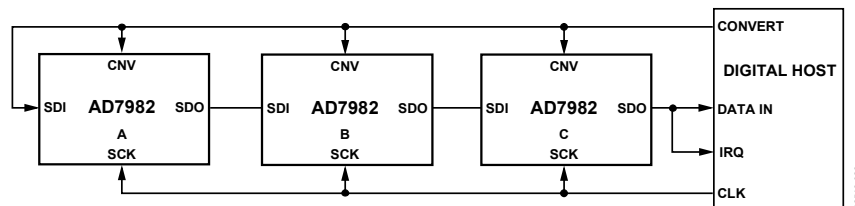
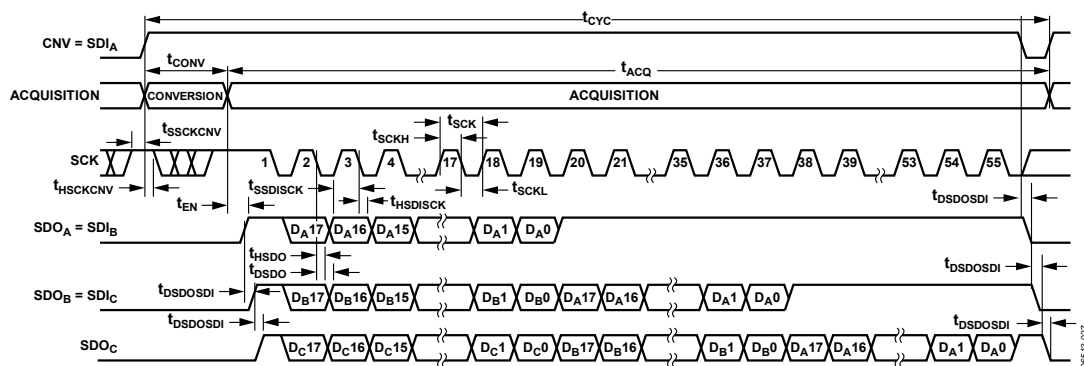

Figure 39. Chain Mode with Busy Indicator Connection Diagram
Figure 40. Chain Mode with Busy Indicator Serial Interface Timing
- In the chain mode if SCK is high during the CNV rising edge (see Figure 40).
Figure 39 shows a connection diagram example using three AD7982 devices, and Figure 40 shows the corresponding timing.
In this mode, CNV is held high during the conversion phase and the subsequent data readback. When all ADCs in the chain have completed their conversions, the SDO pin of the ADC closest to the digital host (see the AD7982 ADC labeled C in Figure 39) is driven high. The transition of driving the SDO pin of the ADC to high can be used as a busy indicator to trigger the data readback controlled by the digital host. The AD7982 then enters the acquisition phase and powers down. The data bits stored in the internal shift register are clocked out, MSB first, by subsequent SCK falling edges. For each ADC, SDI feeds the input of the internal shift register and is clocked by the SCK falling edge. Each ADC in the chain outputs its data MSB first, and $18 \times N + 1$ clocks are required to read back the N ADCs. Although the rising edge can capture the data, a digital host using the SCK falling edge allows a faster reading rate and consequently more AD7982 devices in the chain, provided the digital host has an acceptable hold time.